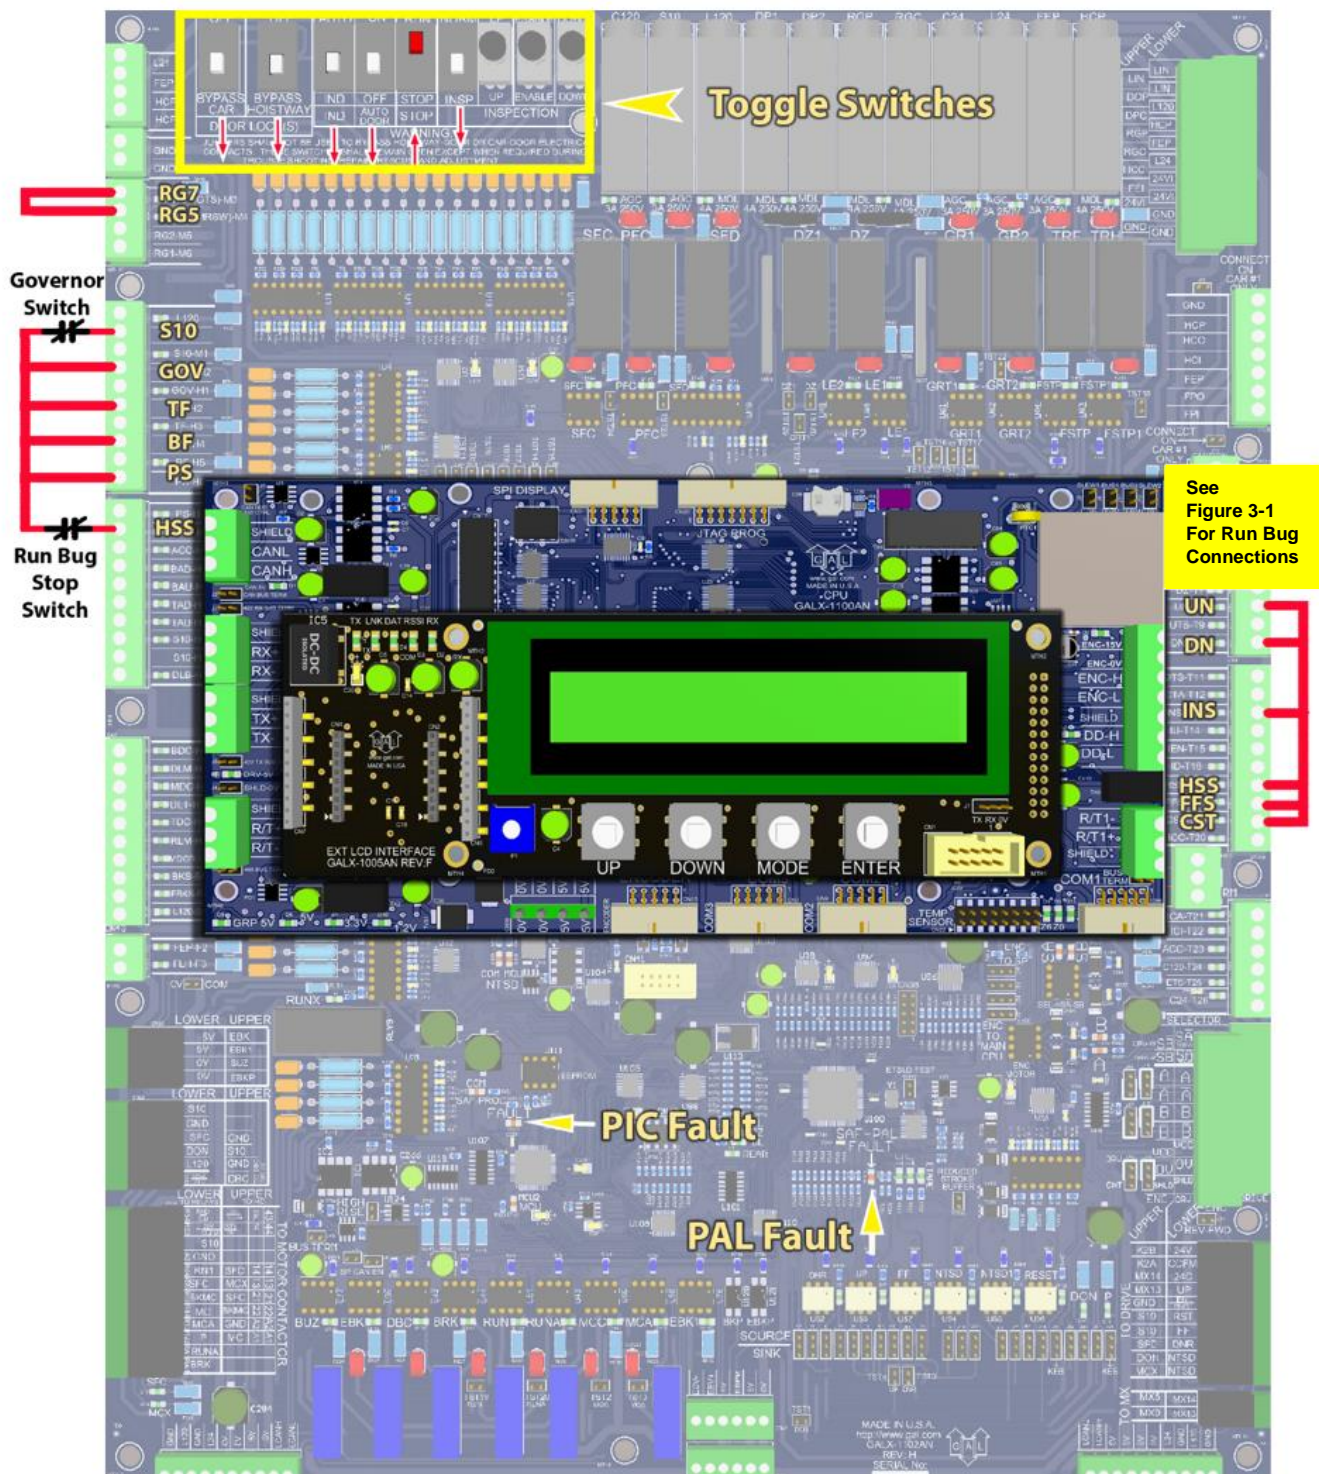

Figure 3-4: GALX-1102AN Main I/O
- 5) Set the toggles switches on the GALX-1102 Main I/O Board as show in Figure 3-4.
- 8) Verify the PIC and PAL fault LED’s are off. See the GALX-1102AN Main I/O Board in Figure 3-4. If these LED’s are on, refer to Section 04 Troubleshooting.